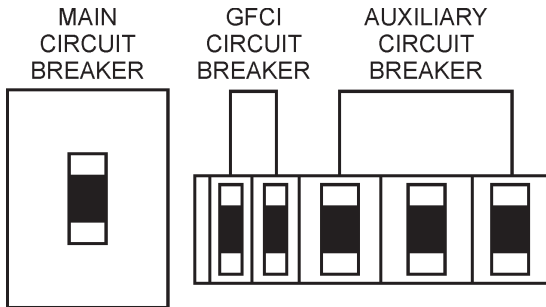

Figure 40. Main, Aux. and GFCI Circuit Breakers
1. Be sure and place the **main, G.F.C.I.** and **aux.** circuit breakers (Figure 40) in the **OFF** position prior to starting the engine.